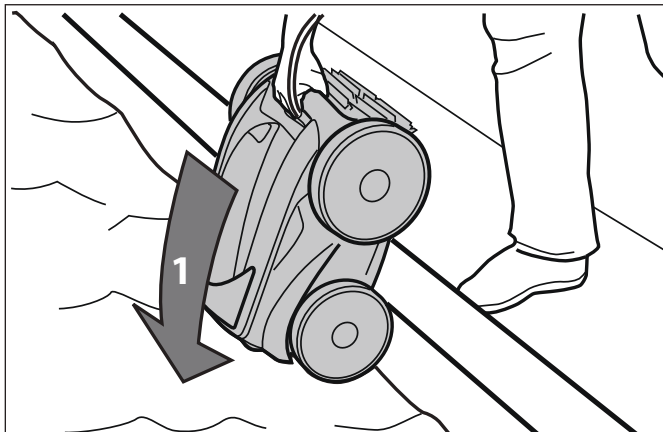

Figure 16. Submerge the Cleaner Vertically
1. Submerge the cleaner in the pool and remove any air trapped inside by keeping the unit vertical. Refer to Figure 16.